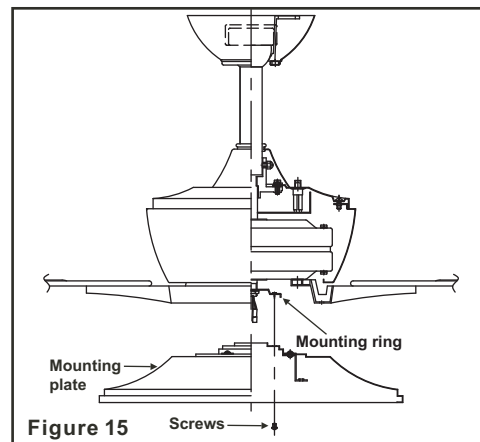

Figure 15
**Step 2.** Place the key holes on the mounting plate over the 2 screws previously loosened from the mounting ring, turn mounting plate until it locks in place at the narrow section of the key holes. Secure by tightening the 2 screws previously loosened and the one previously removed. (Fig. 15)